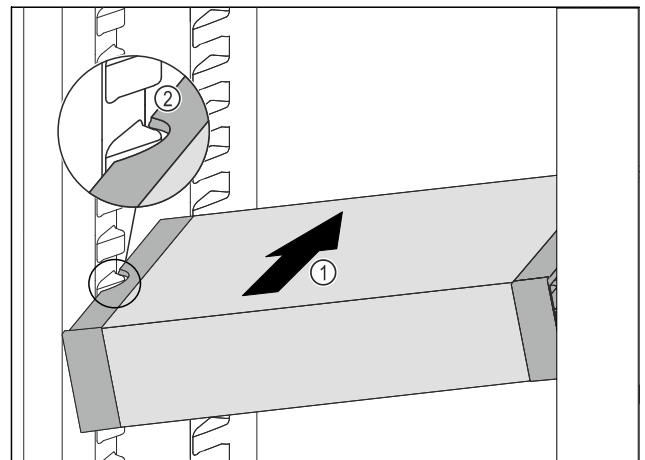

Fig. 121
- Insert the VarioSafe into the refrigerator compartment at an angle Fig. 121 (1) until the recesses in the side Fig. 121 (2) of the VarioSafe are at the level of the support rib in the refrigerator compartment.